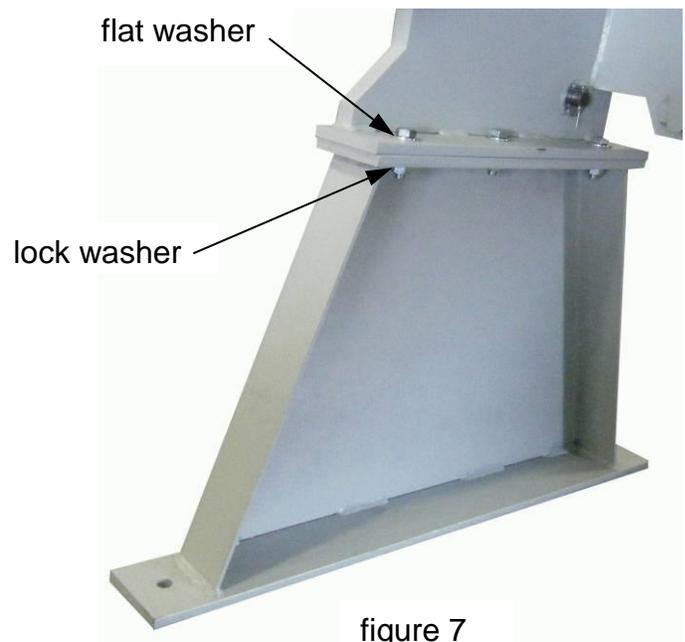

figure 7
5. While the main body is being held securely by the fork lift, attach the supports with (6) 1/2-13 x 1-3/4" lg. hex bolts, flat washers, lock washers, and hex nuts as shown in (fig. 7). Tighten securely.